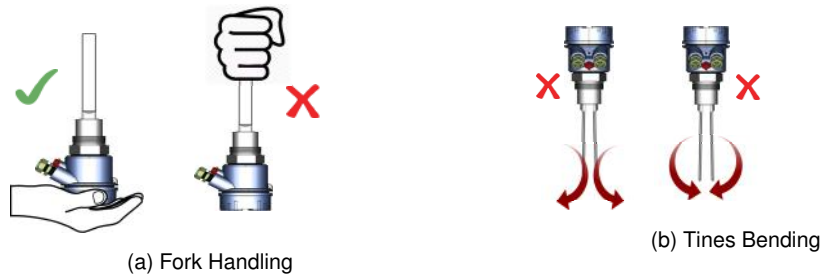

Figure 4: Instrument Handling
- When handling forks, do not lift them using their tines. Please see Figure 4.
- The tines should not be bent and neither should their dimensions be altered. Deforming the shape of the tines may interfere with the fork's operating frequency. Please see Figure 4.